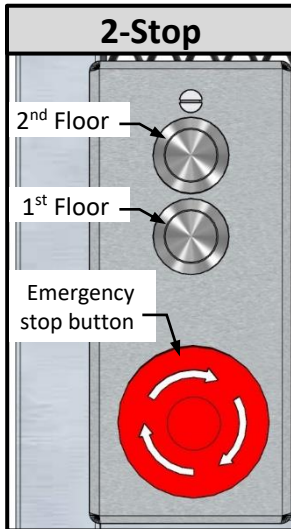
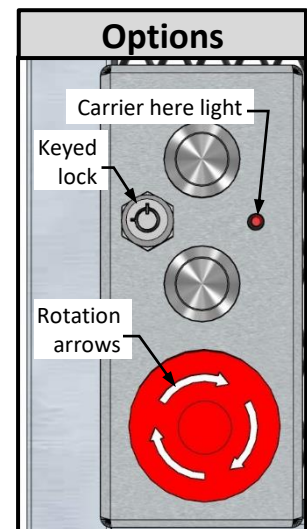

Figure 5
Figure 8
- 1** Press the call/send button that corresponds with the floor you are standing on to call the lift carrier to you. (see Figures 5, 6, & 7)
If you have a “keyed on/off lock” you have to unlock it or the lift will not operate. (see Figure 8)
If you have a “carrier here light” you will see the light turn on when the carrier arrives and the door unlocks. (see Figure 8)
- 9** The emergency stop button shuts down the lift when pressed. (see Figures 5 & 8) The lift will not function until the emergency stop button is popped back out by rotating the red button a quarter turn clockwise (the same direction the arrows point). (see Figure 8)